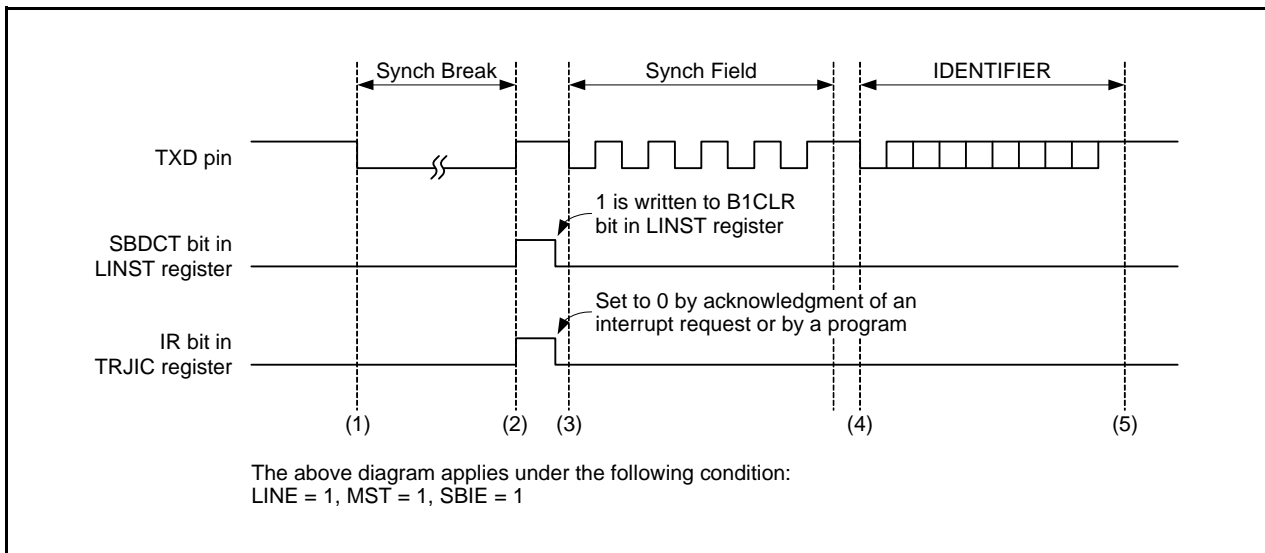
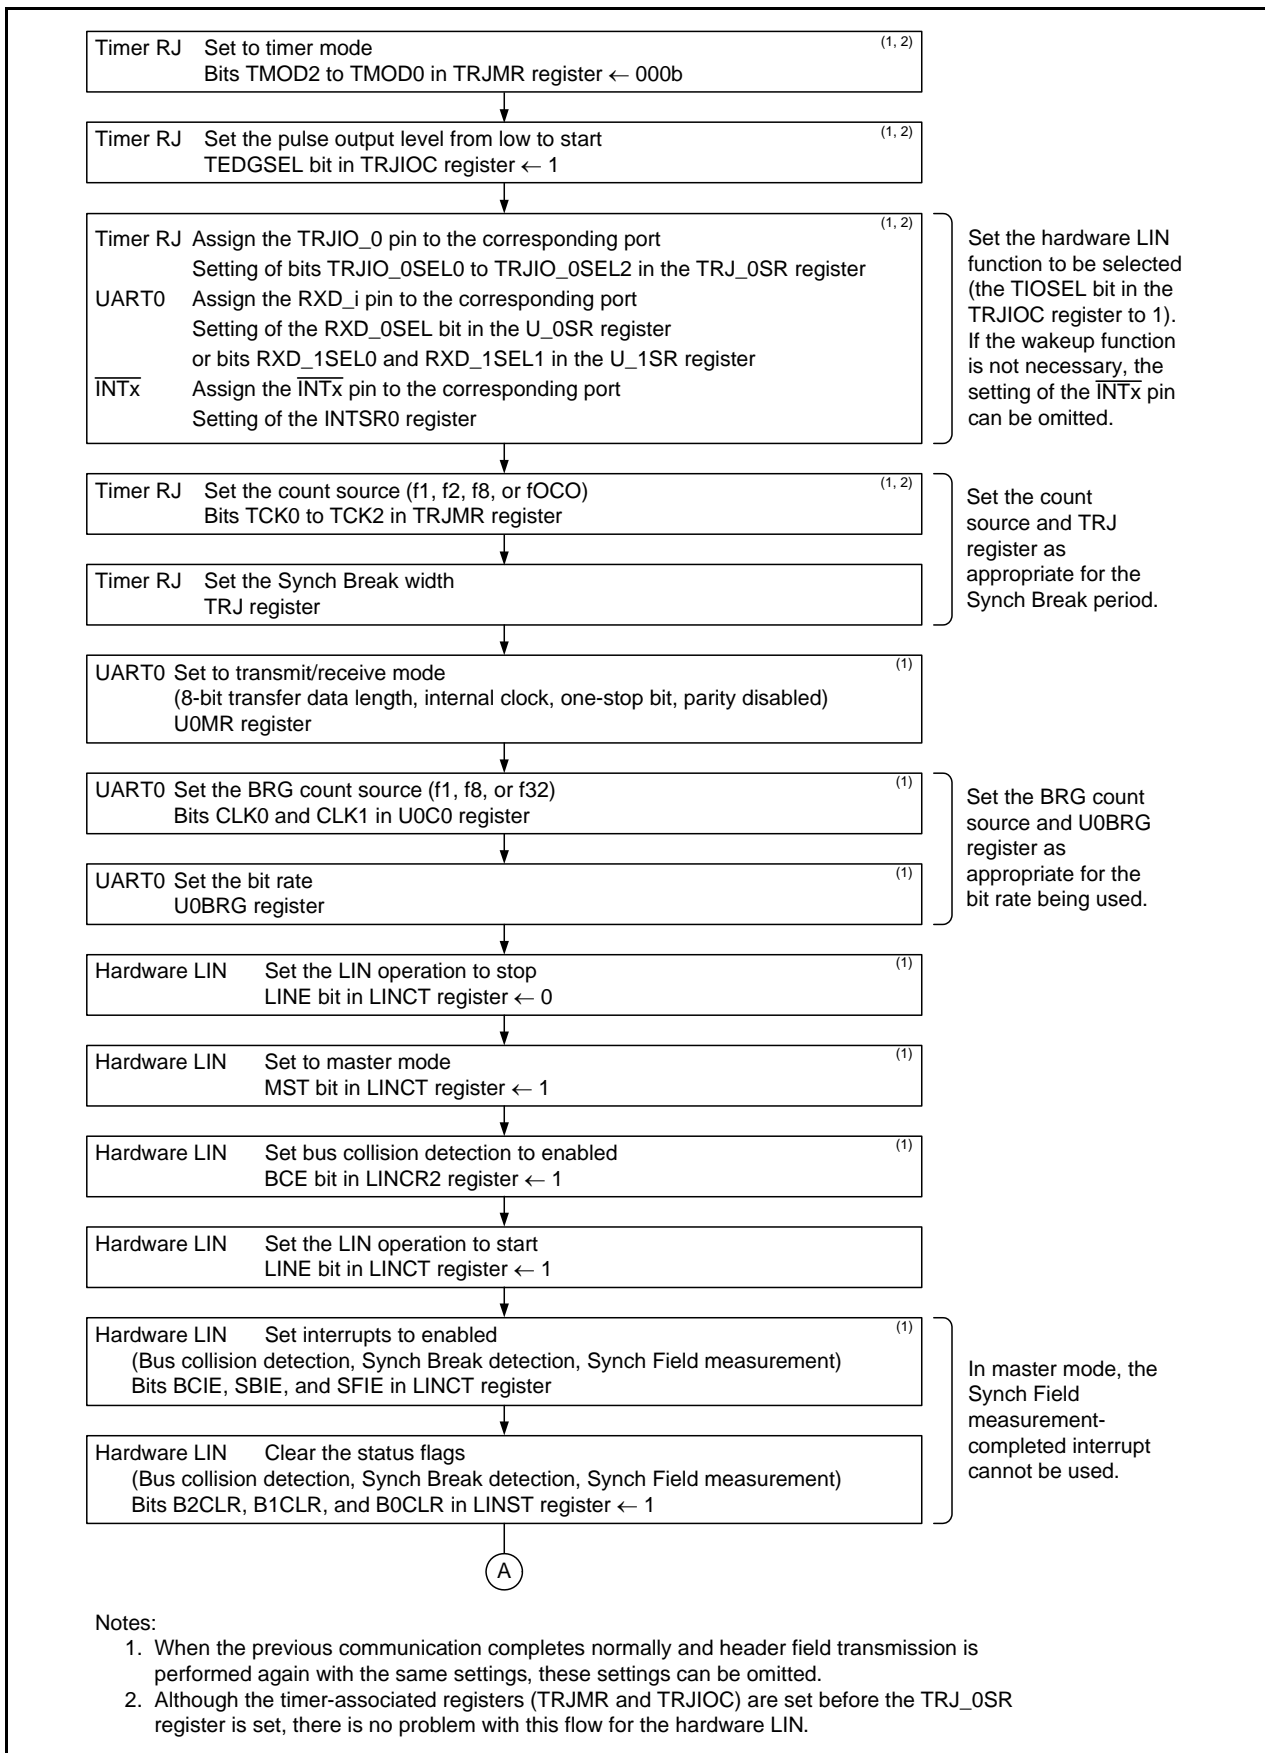
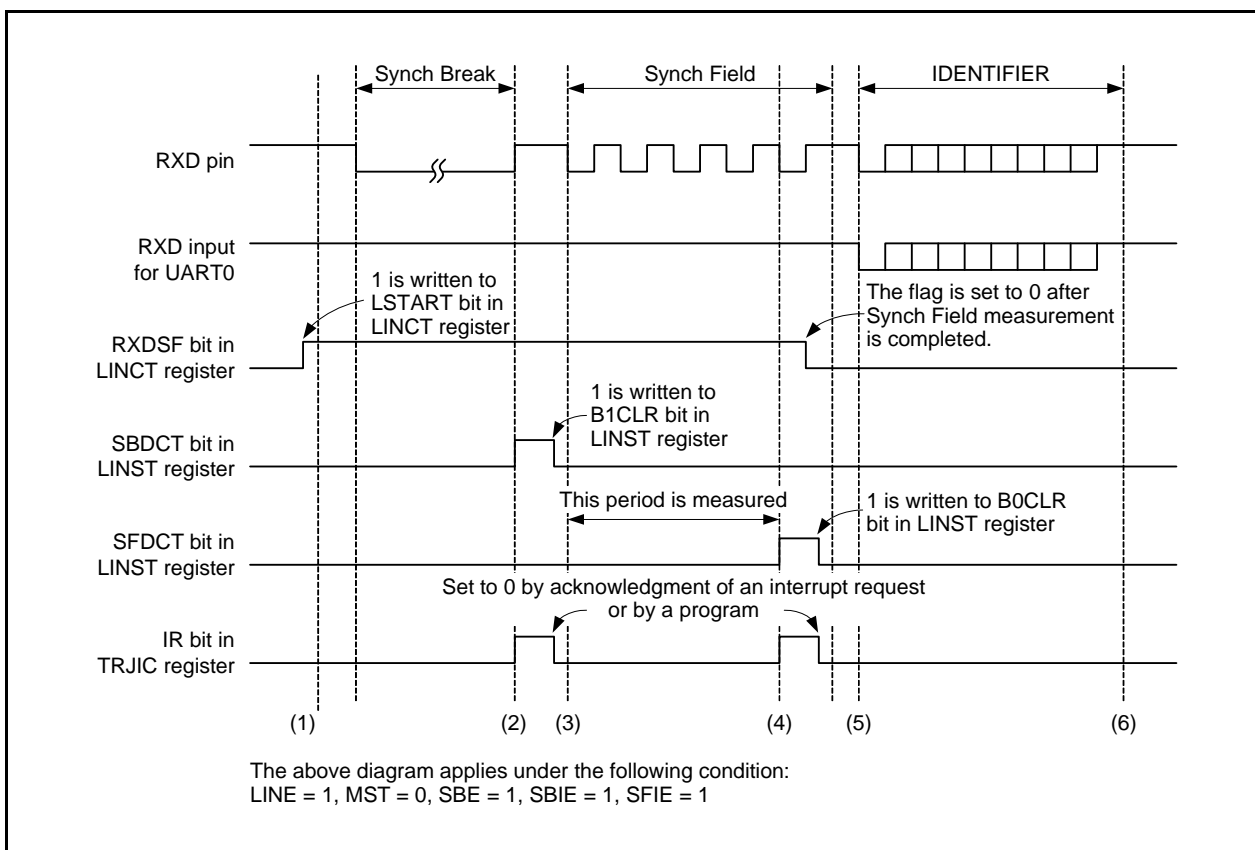
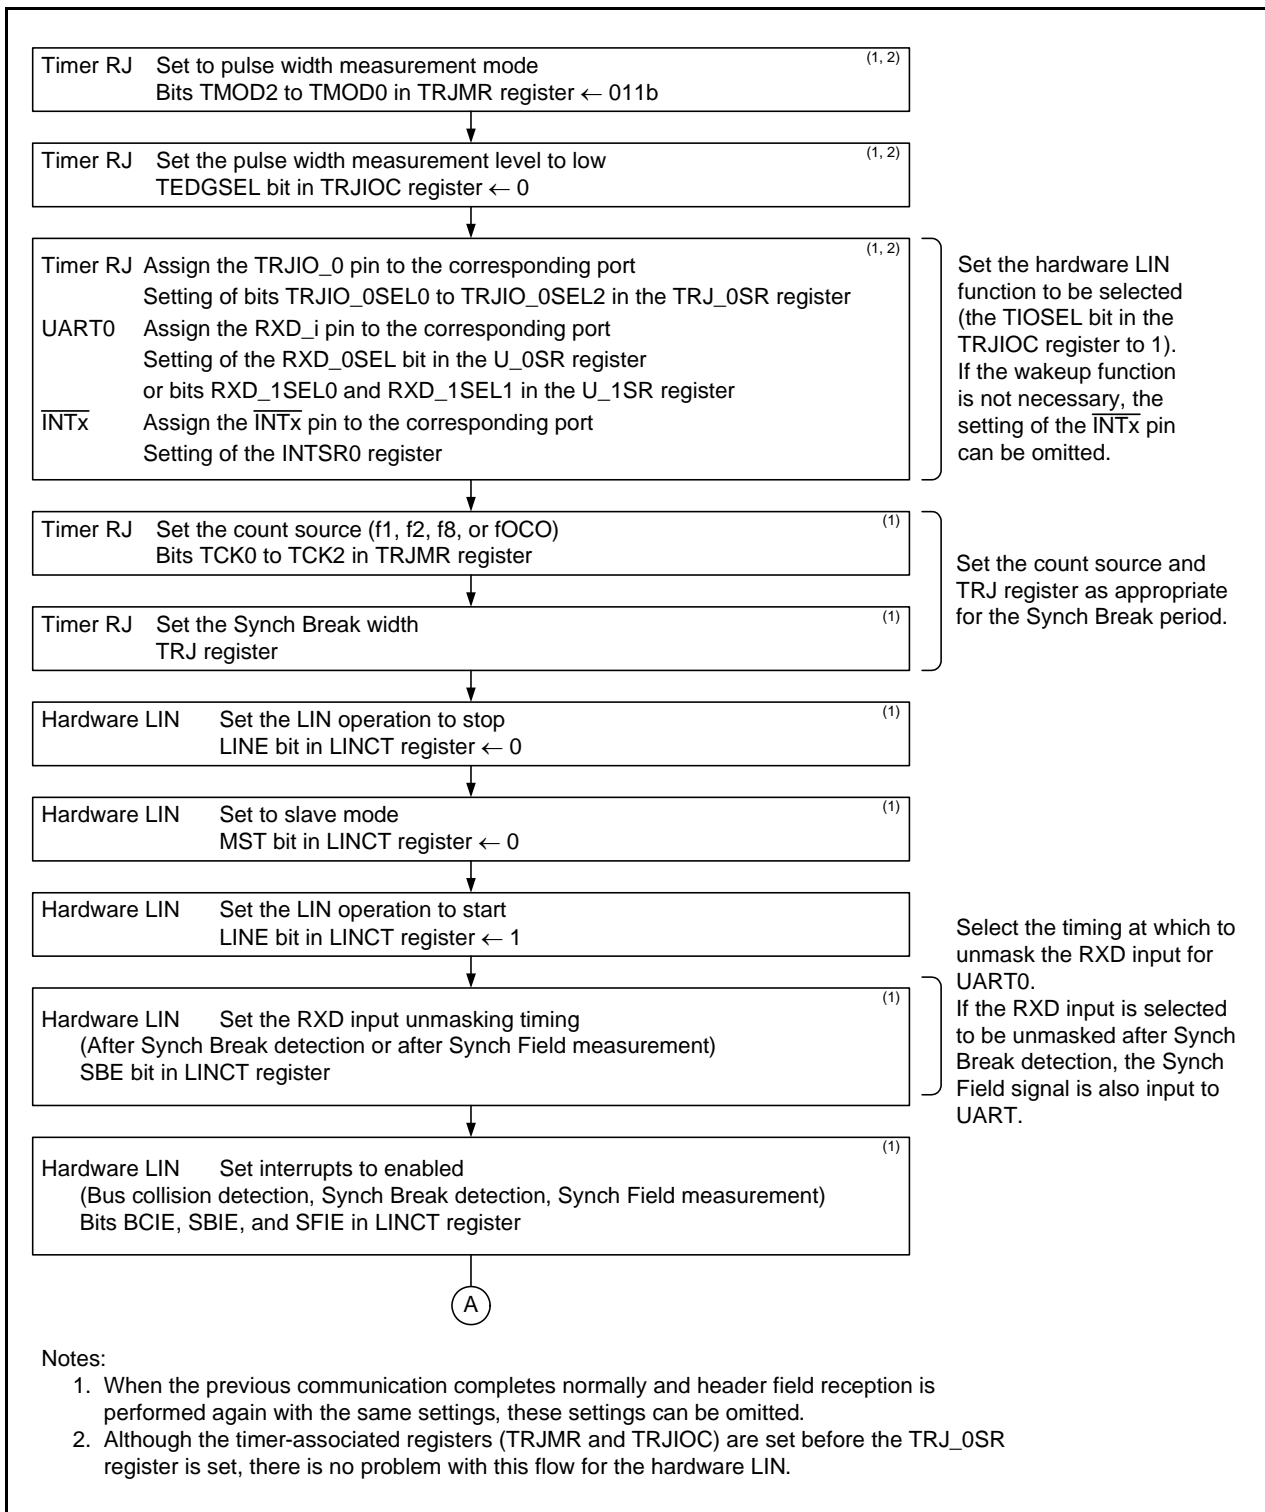

Figure 22.2 Operation Example during Header Field Transmission
Figure 22.3 Header Field Transmission Flowchart Example (1) (i = 0 or 1, x = 1 or 2)
Figure 22.5 Operation Example during Header Field Reception
Figure 22.6 Header Field Reception Flowchart Example (1) (i = 0 or 1, x = 1 or 2)
3. Inputs to timer RJ and UART are disabled immediately after the LINE bit is set to 1 (LIN operation starts). Refer to **Figures 22.3 and 22.4 Header Field Transmission Flowchart Examples** and **Figures 22.6 to 22.8 Header Field Reception Flowchart Examples**.
Figure 22.2 shows an Operation Example during Header Field Transmission master mode. Figures 22.3 and 22.4 show Header Field Transmission Flowchart Examples.
Figure 22.5 shows an Operation Example during Header Field Reception in slave mode. Figures 22.6 to 22.8 show Examples of Header Field Reception Flowchart.